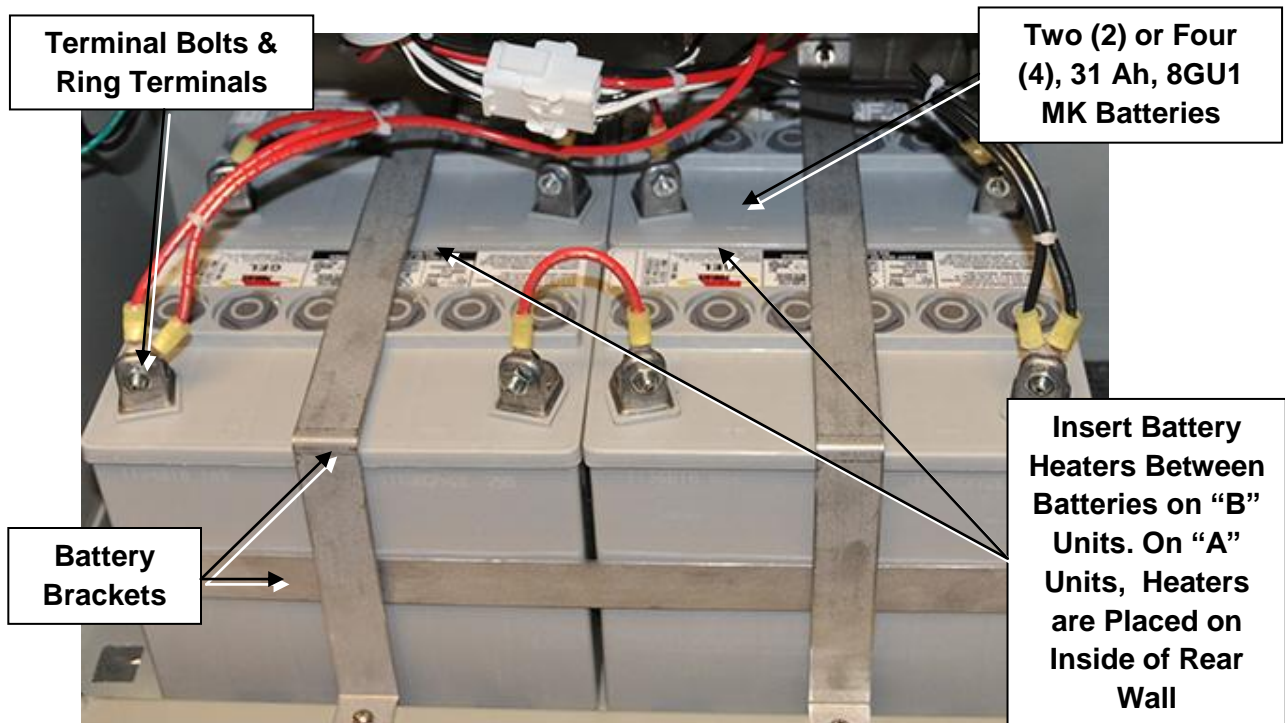

Figure 17: Four (4) Battery B-Configuration Shown in Open Battery Compartment
6.21 The battery compartment(s) holds two (2) or four (4) 31Ah, 8GU1, MK Batteries. See Figure 17.